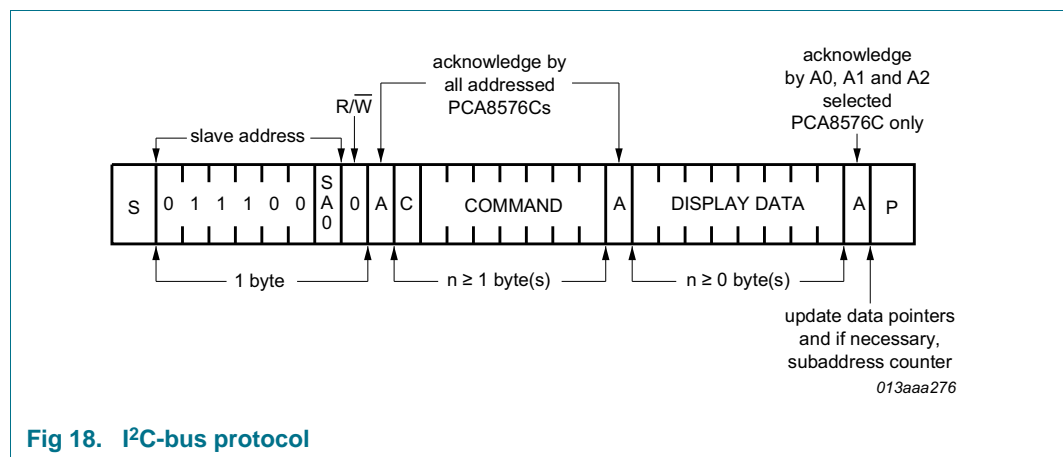

Fig 18. I²C-bus protocol
The I²C-bus protocol is shown in Figure 18. The sequence is initiated with a START condition (S) from the I²C-bus master which is followed by one of the two PCA8576C slave addresses available. All PCA8576Cs with the corresponding SA0 level acknowledge in parallel with the slave address but all PCA8576Cs with the alternative SA0 level ignore the whole I²C-bus transfer.